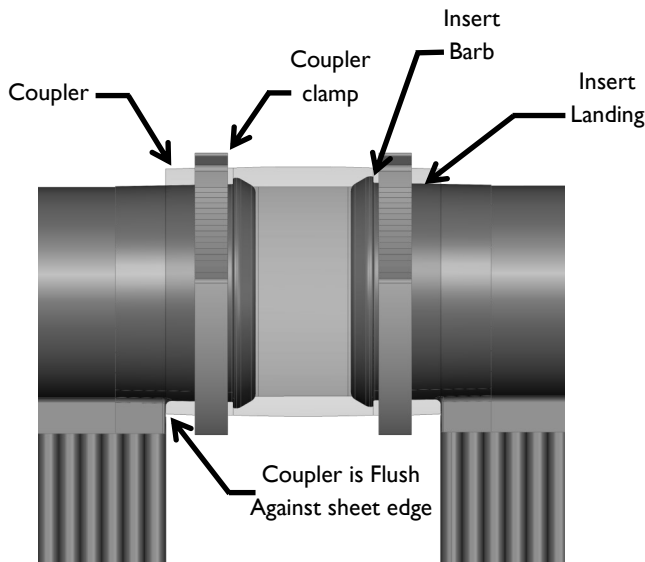

Figure 9 Panel Coupling
When installing the Panels, pay careful attention to install the couplers all the way up against the Panel insert and to position the coupler clamps as indicated in Figure 9 below. This greatly reduces the need for Panel adjustments later on.
2. Connect panel couplers (PN 10196) on upper and lower inserts of all Panel corners for supply and return plumbing. Be sure to install Coupler Clamps as depicted in **Figure 9**.